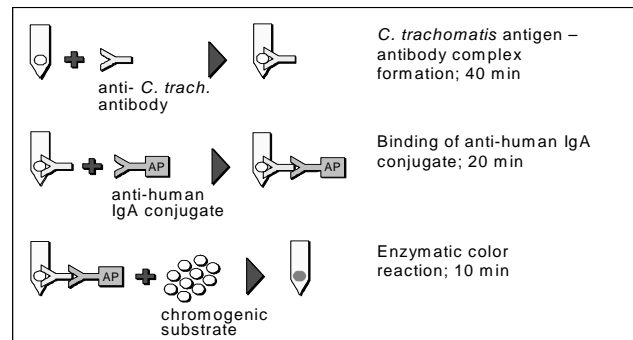

Figure 1. Principle of the Test
At the outset of the test, serum or plasma specimens are added to the diluent in the wells of row A of the Developing Plate. The Card is then inserted in the wells of row A. Anti-*C. trachomatis* antibodies, if present in the specimens, will specifically bind to the respective chlamydial antigens on the lower spot of each tooth of the Card (Figure 1). Unbound components are washed away in row B. In row C, the anti-*C. trachomatis* IgA captured on the lower spots of the teeth, and the human immunoglobulin on the upper spots (Internal Control), will react with alkaline phosphatase (AP)-labeled anti-human IgA antibodies. In the next two rows, unbound components are removed by washing. In row F, the bound alkaline phosphatase will react with chromogenic components. The results are visible as gray-blue spots on the surface of the teeth of the Card.